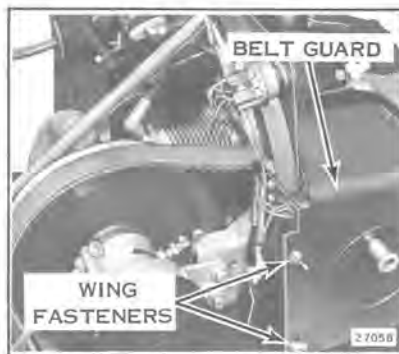

Figure 10-1
- Remove four wing fasteners and belt guard, Figure 10-1.